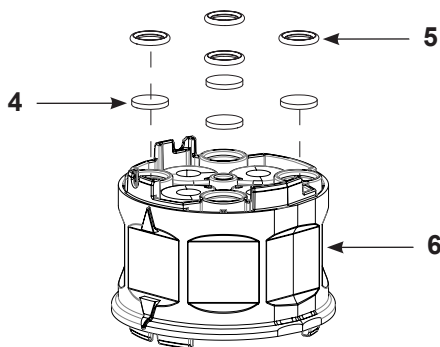

Figure 22 Assemble the Pinch Valve Housing
2. See Figure 22. Assemble filter discs (4) and O-rings (5) into pinch valve chamber block (6).